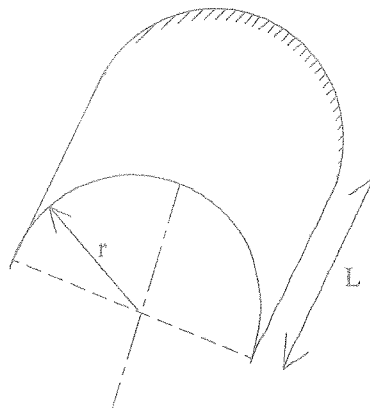

Figure Q4
- b) A semi-circular cylindrical shell made of thin steel sheets is proposed to use as a cantilever roof of a cafeteria as shown in Figure Q4. The length and the radius of the roof are  $L$  and  $r$ , respectively. Assume that the load acting on the shell is its self weight of ' $q$ ' per unit surface area.